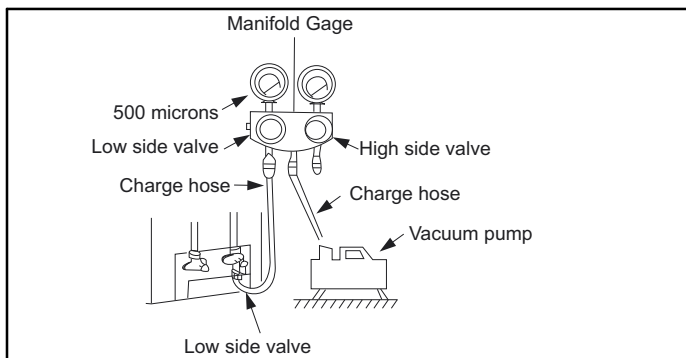

Figure 14 – Manifold
3. Fully open the low side of manifold gage. (See Fig. 14)